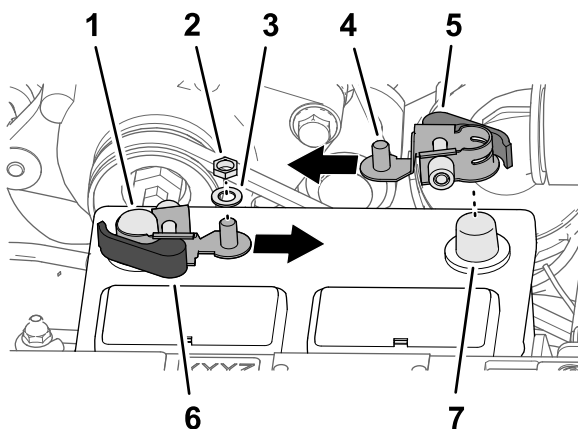

Figure 239
1. Remove the hex nuts and washers from the red and black handle quick-connect clamps (Figure 239).
3. Assemble the quick-connect clamp onto the negative battery post, with the threaded post of the clamp aligned toward the center of the battery as shown in Figure 239.